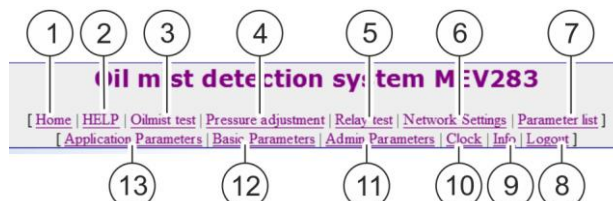

Fig. 47: Menu bar
1. Click on “Logout” (Fig. 47/8) in the menu bar.